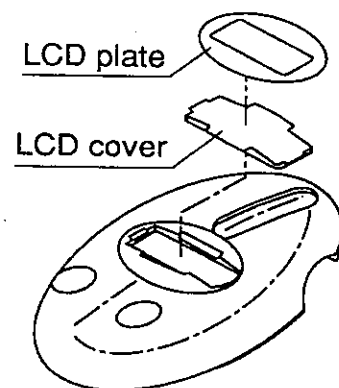

Fig. 14
- Step 1** See Fig. 14. Remove LCD plate of top cover. Replace LCD cover (U3-1172).